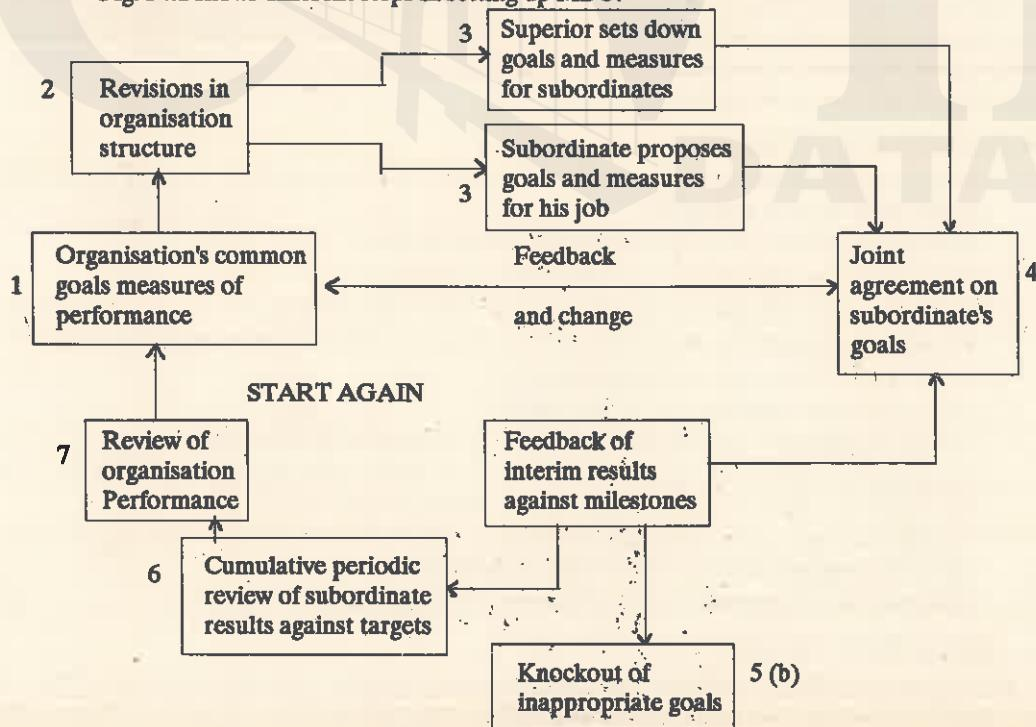

Fig. 34.1. Steps of the cycle of MBO.
- Fig. 34.1 shows different steps in setting up MBO.